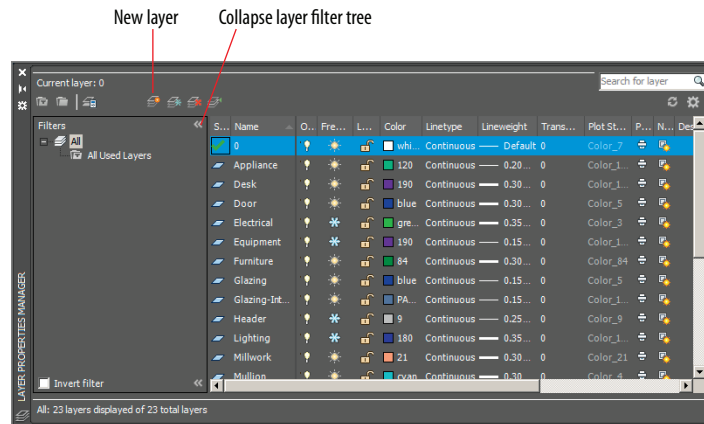

FIGURE 6.26 Layer Properties Manager
1. Click the Layer Properties tool in the Layers panel. The Layer Properties Manager appears (see Figure 6.26).